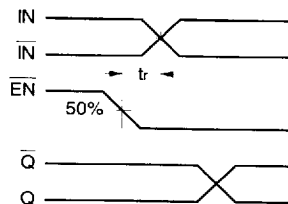

Figure 3. Release Time
- The release time is the minimum time that  $\overline{\text{EN}}$  must be de-asserted prior to the next IN/ $\overline{\text{IN}}$  transition to ensure an output response that meets the specified IN to Q propagation delay and output transition times (see Figure 3).